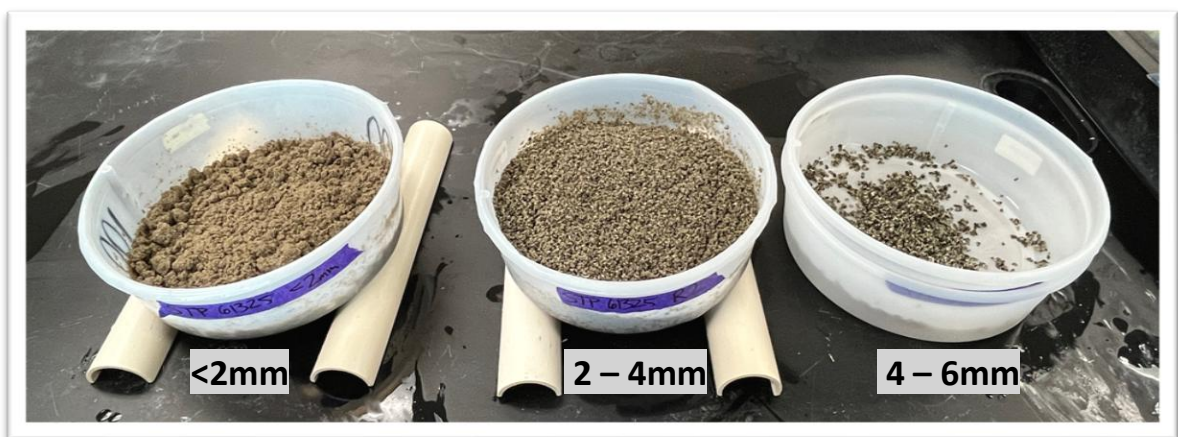

Figure 3.2. Three size classes of oyster seed sorted into individual sieves.
3. Once the necessary supplies and equipment are gathered, clean and size grade your seed (seed in a size group must be similar sizes for the software to work). Make sure that seed is collected into individual sieves by size class and genetic or ploidy group (Figure 3.2). Shake out excess water and allow sieves to drain for 15 – 20 minutes.